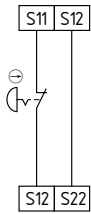

Fig. 6
**Single-channel emergency stop circuit with command devices to EN ISO 13850 and EN 60947-5-5 (Fig. 6)**